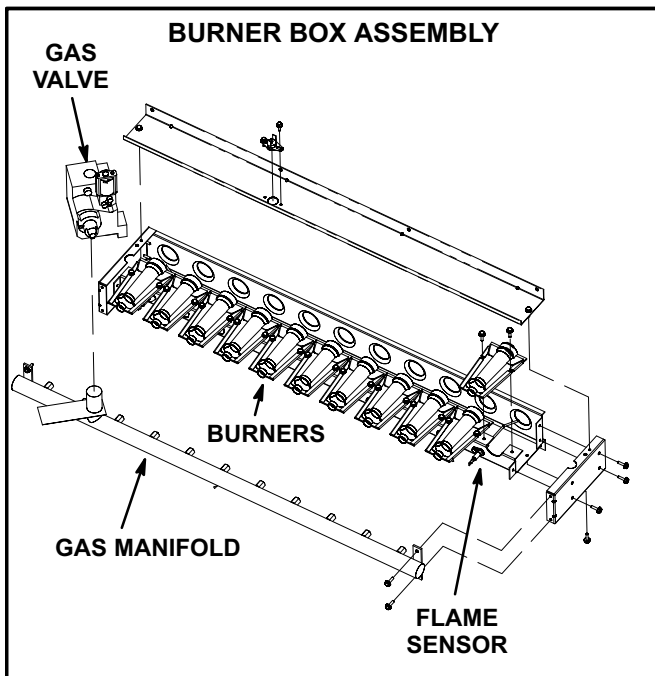

FIGURE 18
- 3- Remove two screws securing burners to burner support and lift the burners from the orifices. See figure 18. Clean as necessary.